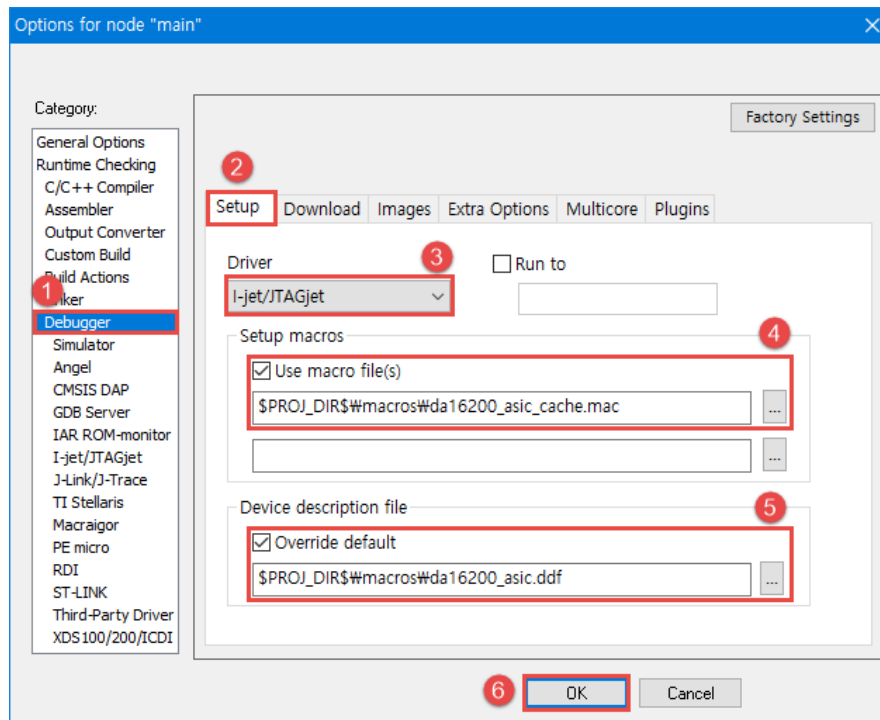

Figure 40: Debugger Setup Setting
- b. In the Options for node "main" window, in the **Category** list, select **Debugger** (1). See Figure 40.